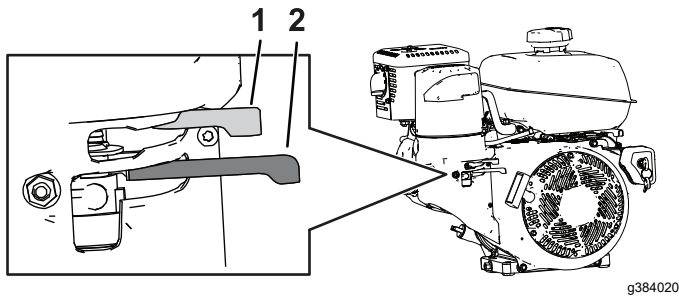

Figure 12
1. Move the fuel-shutoff valve to the OPEN position (Figure 12).
3. Position the choke lever as follows (Figure 12):